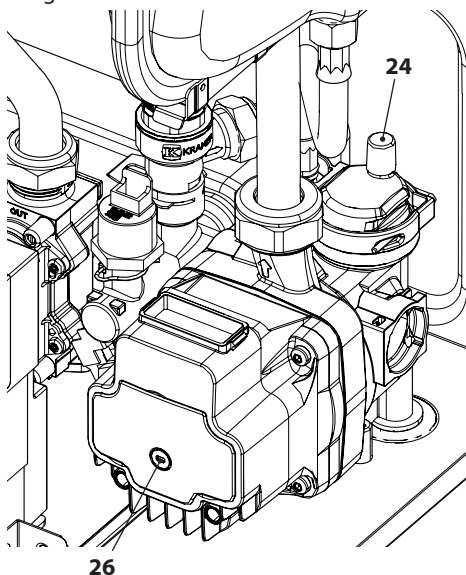

Figure 6.3
- Loosen the automatic bleed valve cap 24 in Figure 6.3.
- Remove the cap 26 in Figure 6.3 and release the pump by turning the impeller using a screwdriver.